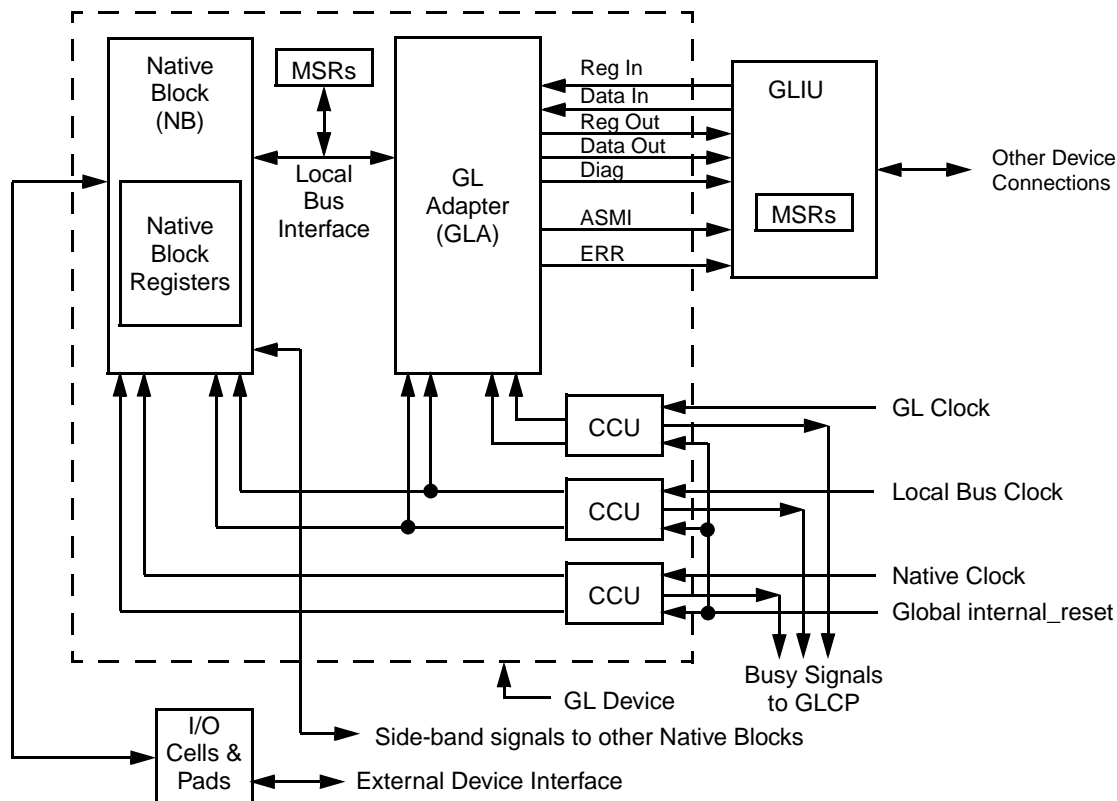
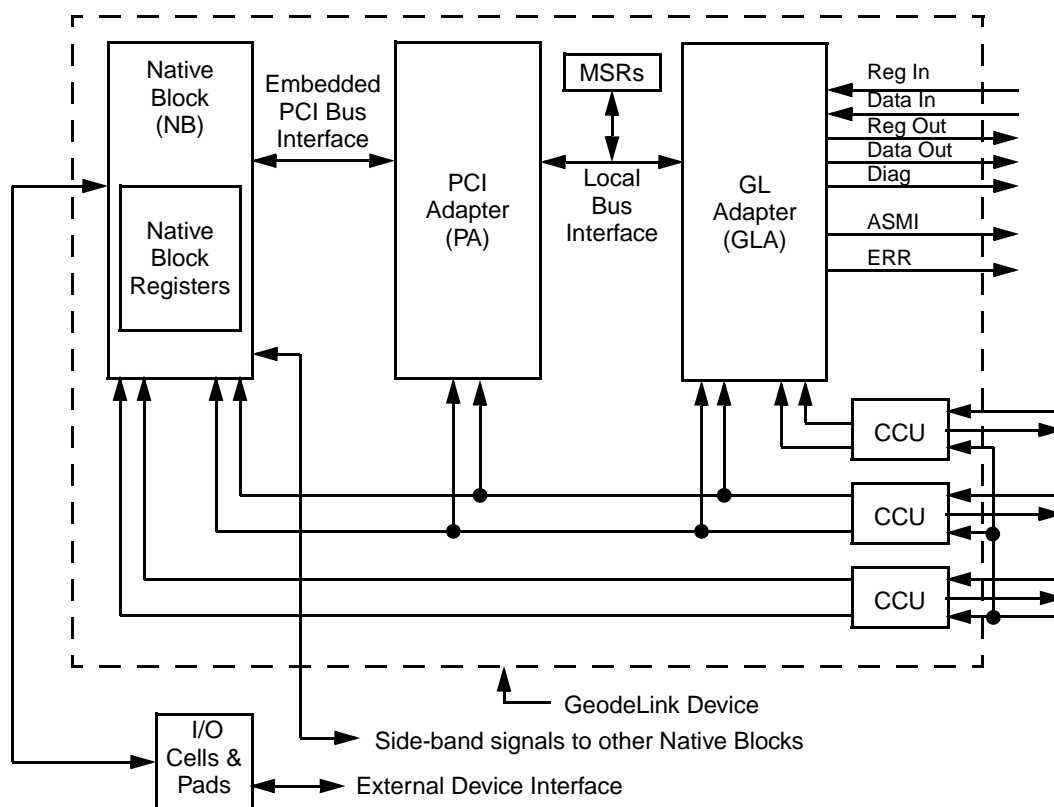

Figure 3-4. Typical CS5535 GeodeLink Device
Figure 3-5. CS5535 GeodeLink Device With Embedded PCI Bus
A typical or “generic” CS5535 GeodeLink Device (GLD) is illustrated in Figure 3-4 along with internal and external connections. The GLD consists of the *Native Block* (NB), *GeodeLink Adapter* (GLA), *MSRs*, and *Clock Control Units* (CCU). Each of these is discussed in the following paragraphs.
The GLA sits between the GLIU and the Local bus. The Local bus is a traditional address/data bus supporting GLA to NB transactions (slave transactions) and NB to GLA transactions (master transactions). However, it is a single transaction bus in that any given slave or master transaction runs to completion before another transaction can start. This is compatible with the NBs listed above (i.e., ACC, ATAC, and DD), which are all single transaction devices. As suggested by Figure 3-4, the GLA contains no registers and is strictly speaking, just a bridge.
3.4 EMBEDDED PCI ADAPTER (PA)
A GeodeLink Device with an embedded PCI bus is illustrated in Figure 3-5. Note the similarity with Figure 3-4 "Typical CS5535 GeodeLink Device" on page 55. The only difference is the PCI Adapter (PA) located in the center of the figure. The PA allows a module designed for the PCI bus to be easily embedded in a GeodeLink architecture. It is used to embed the USB core into the GeodeLink architecture.